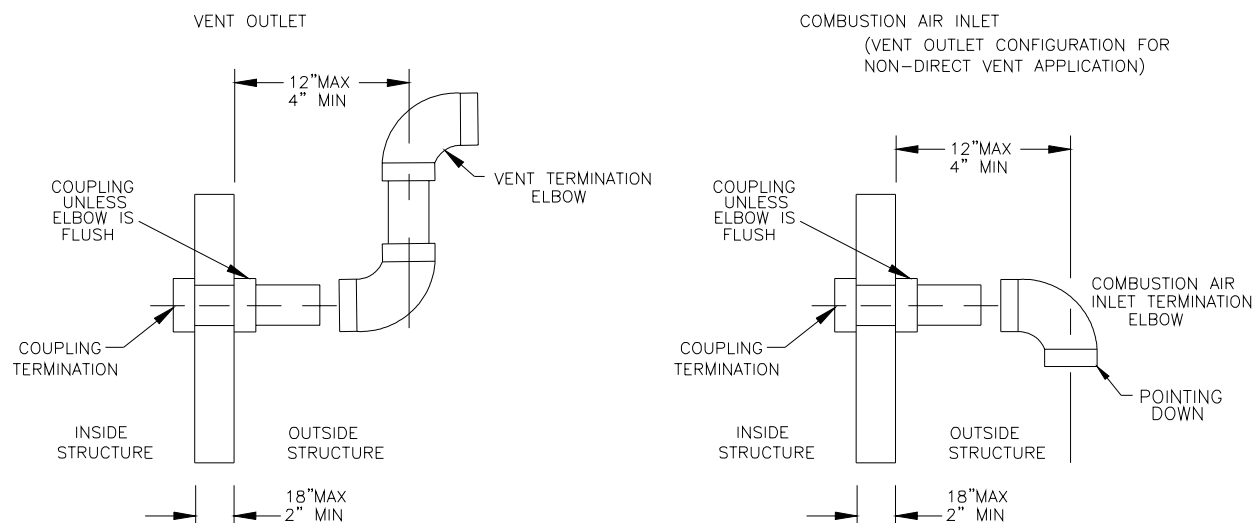
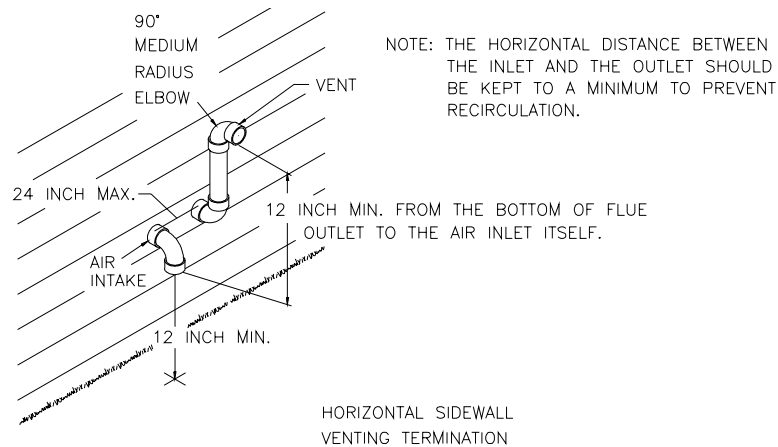

Figure 2
Figure 3
1. The maximum wall thickness through which the vent and combustion air pipes may pass is 18" and the minimum is 2". The maximum distance from the outer wall to the center of the elbow is 12" (See Figure 2).
2. The PVC vent termination elbow must be installed in accord with local codes and these instructions. The bottom edge of the vent termination elbow must be installed at least 12 in. above the outlet of the combustion air intake termination elbow and must be installed in the same atmospheric pressure zone (i.e. on the same wall). It is recommended that the horizontal distance between the inlet and flue termination be kept to a minimum when possible and not exceed 24 in. apart. The vent and air intake should utilize the same numbers of elbows and approximately the same length of straight pipe to reach the outside termination elbows. (See Figures 2 & 3).
This furnace may be **horizontally vented** with a single exhaust pipe. This will be a non-direct vent installation. The same exhaust venting guidelines apply except the exhaust termination will be similar to the air intake of the "2 pipe" direct vent installation. Refer to intake terminal instructions Figure 3 and Figure 5. Termination will consist of one 90° elbow pointed downward. (See figure 2)
Mark the pipe before inserting into the wall so the elbow orientation can be determined. Also, if a protective shield will be used on the exterior surface of the wall, it should be installed at this time. Glue a coupling or elbow to each pipe, depending on your installation with the PVC pipe cement being careful to maintain the proper orientation of the elbows. Complete the assembly of the outlet and inlet as shown in Figure 5, making sure that the spacing between the inlet and outlet complies with that shown in Figure 3.